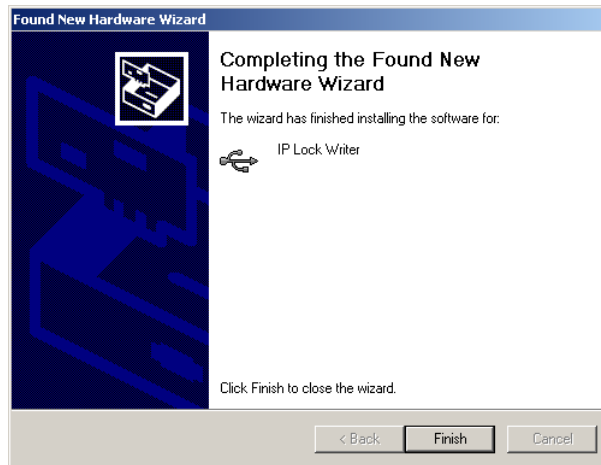

Figure 7-4 Finish dialog
4. In finish dialog (Figure 7-4), click "Finish" to complete install device driver process.